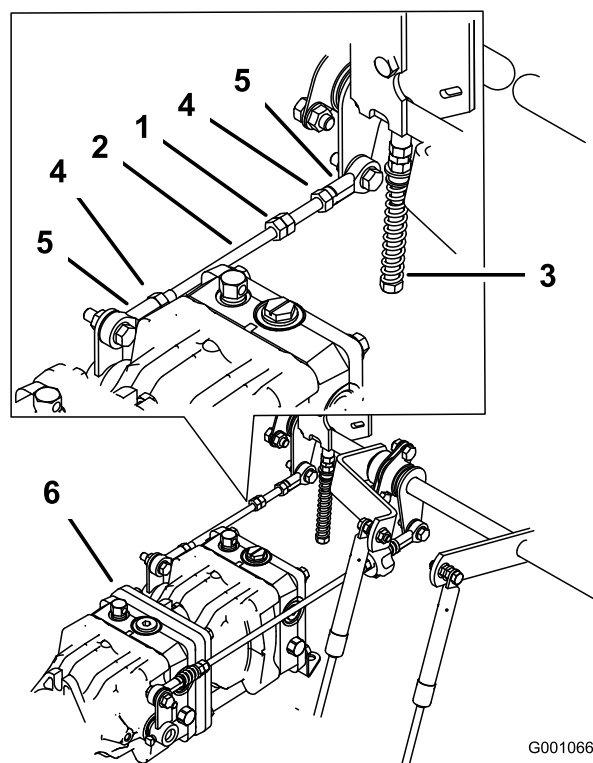

Figure 73
1. Loosen the locknuts at the ball joints on the pump control rod (Figure 73).
3. Adjust the pump rod length by rotating double nuts on rod, in the appropriate direction, until wheel is still or slightly creeps in reverse (Figure 73).
6. Tighten the locknuts at the ball joints (Figure 73).